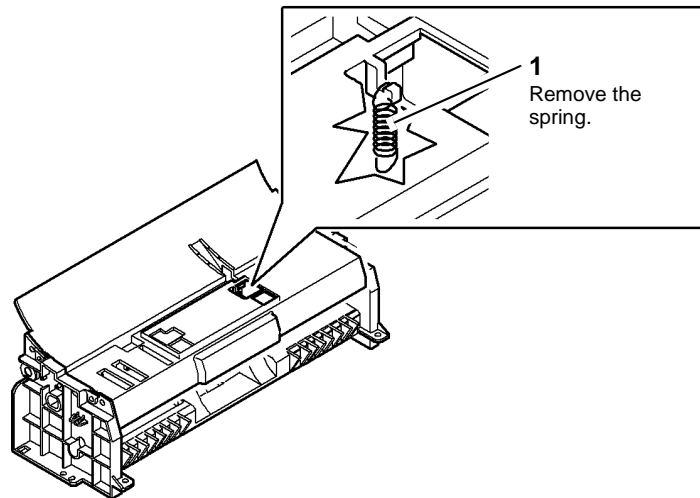

Figure 1 Spring Removal
3. Remove the feed roll assembly support spring, Figure 1.